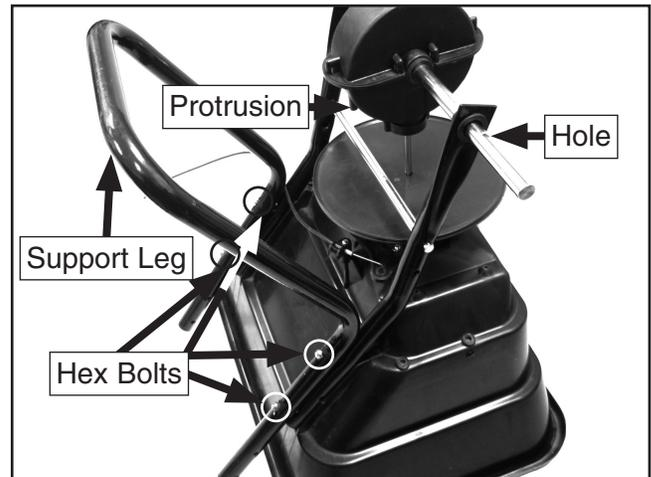

Figure 5. Lower hopper assembly.
3. Slide the impeller rod into the base of the hopper making sure that the small protrusion in the gear box is facing towards the back. Attach the wheel assembly frames and the support leg to the hopper assembly using the M6-1 X 65 hex bolts, 6mm flat washers, and four of the M6-1 lock nuts, as shown in **Figure 5**.